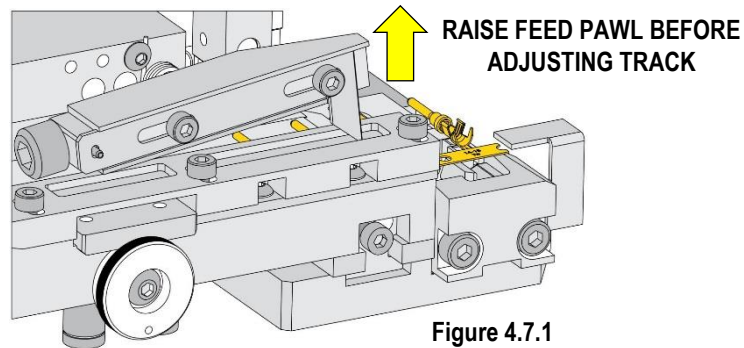

Figure 4.7.1
2. Raise the feed pawl out of the guide groove, and rest it on top of the feed pawl guide. This prevents damage to the feed pawl during track adjustment. See Figure 4.7.1.